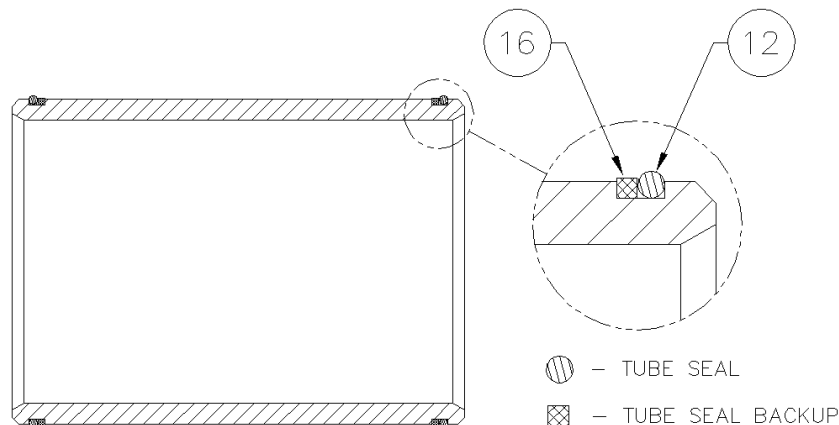
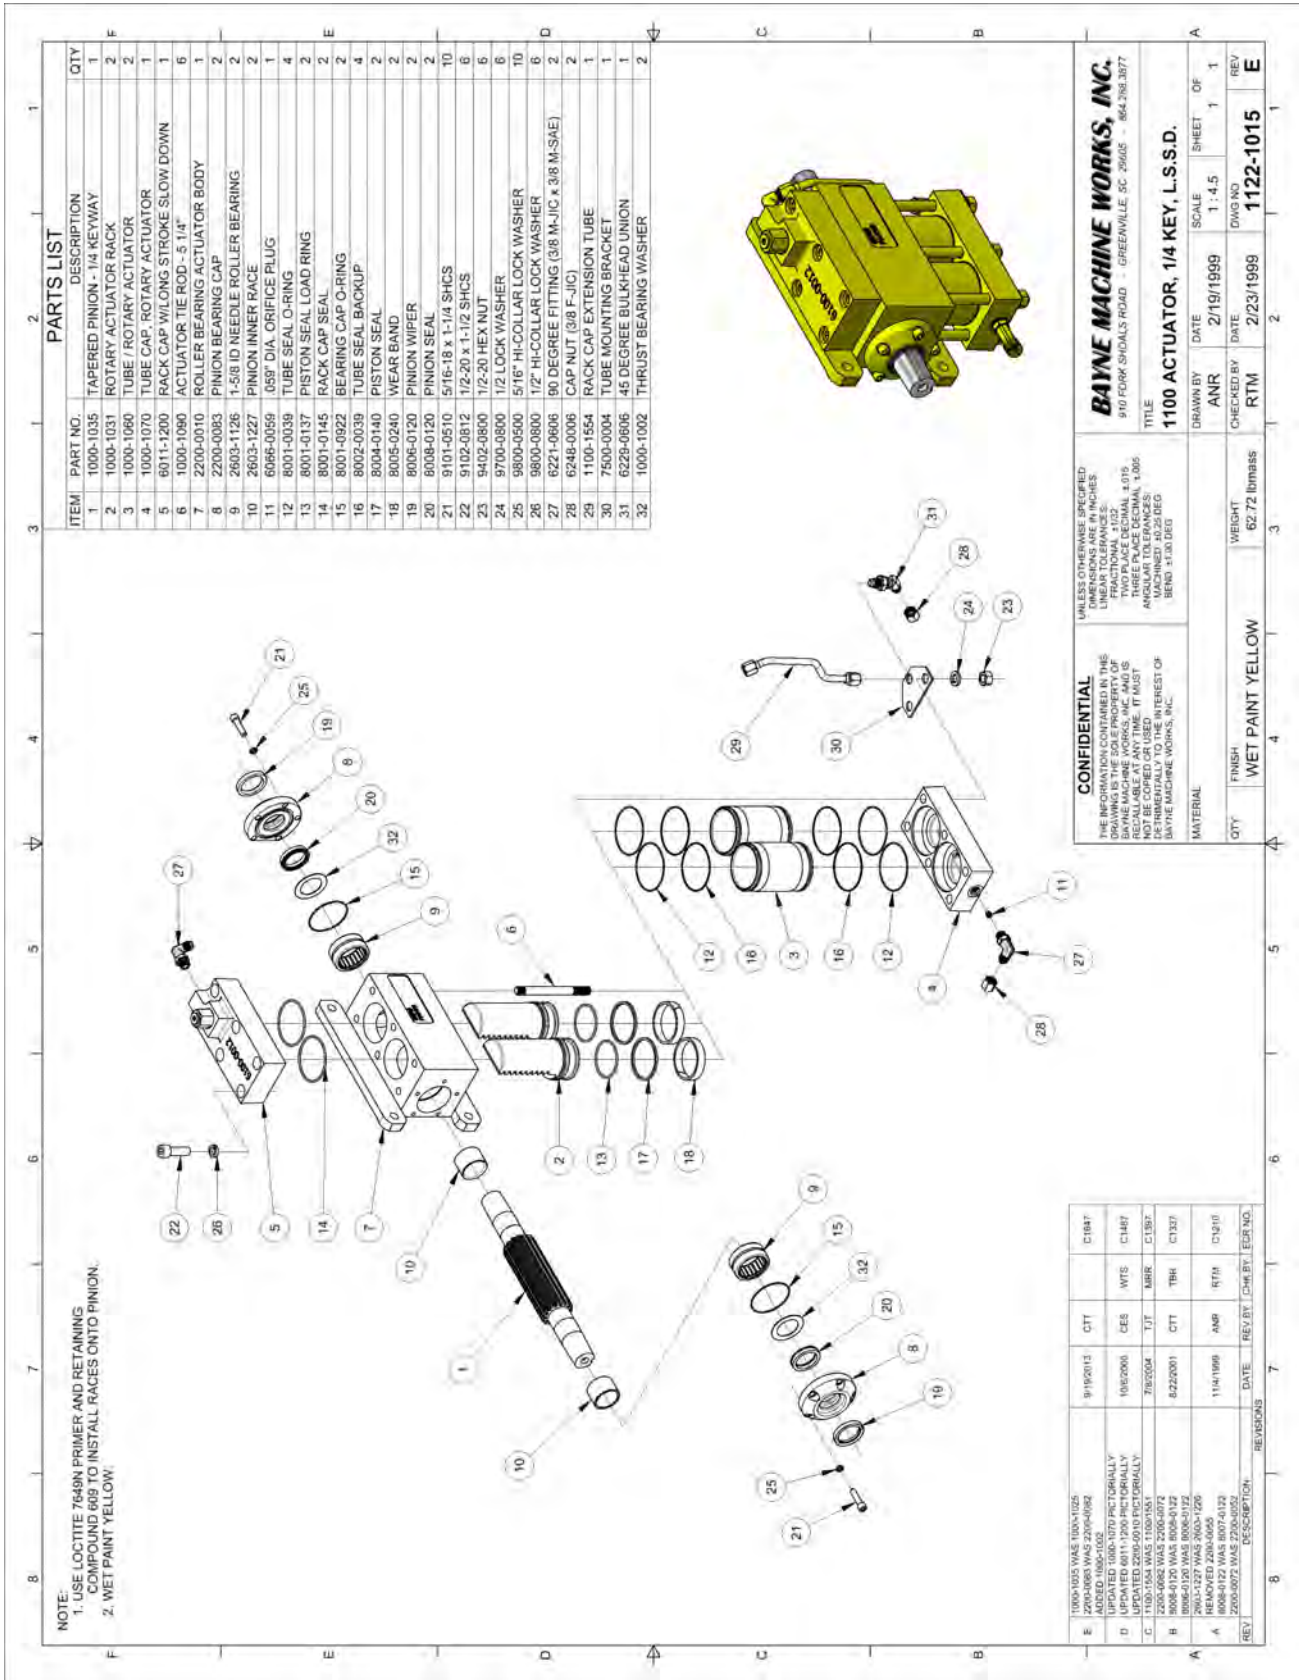

Figure C-2
Figure C-13
Before starting the assembly of the Rotary Actuator, refer to the exploded parts drawing and parts list (Figure C-13 found at the end of these instructions) to familiarize yourself with the individual components. Prepare a clean surface, in an area free of blowing dust and contaminants in which to assemble the Rotary Actuator. Be sure that all parts are thoroughly clean and dry before starting assembly.
2. Install the tube seal (12) (Figure C-2) and "square" tube seal backup (16) on each end of the actuator tubes (3) (Figure C-13). Be sure that the "square" tube seal backup ring is toward the inside of the tubes at both ends as shown. Press all rings firmly into the grooves. Repeat this procedure for the other tube.
5. Coat the head portion of the racks (2) (Figure C-13) with STP Oil Treatment. Install the racks, head portion up with the teeth facing the flanges of the actuator body, into the dual set of bores in the body. Simultaneously slide the racks into the bores so that the racks mesh with the pinion in the same position. Rotate the pinion shaft to engage the racks into the pinion.
- Coat one end of the actuator tubes (3) (Figure C-13) around the seal area with STP Oil Treatment as shown in Figure C-7. Using a rubber mallet, drive the coated end of the tube onto the exposed rack until the tube end seats in the actuator body, making sure that the seals remain in place as the tube enters the counter-bore. Repeat this procedure for the other side.
- Install the six tie rod studs (6) (Figure C-13) by screwing the short threaded end into the actuator body. Hand tighten only at this time (the torque needed will be applied later in the procedure).
- Place the tube cap (4) (Figure C-13) on the table. Coat the sides of the two bores in the tube cap with STP Oil Treatment. Install the cap over the tubes and rod studs with the oil port positioned to the left as shown in Figure C-13. Using a rubber mallet, tap the tube cap over the tubes until the tubes seat in the cap, making sure that the seals remain in place.
- Place the tube mounting bracket (30) (Figure C-13) over the two end rod studs opposite the oil port in the tube cap as shown in Figure C-13.
- Install the hex nuts (23) (Figure C-13) and lock washers (24) on the tie rod studs. Torque the nuts to 50 ft-lb. in the sequence shown in Figure C-8.
12. Place the rack cap (5) (Figure C-13) bore side up on the table and coat the edge of each bore with STP Oil Treatment. Install the rack cap seals (14) (Figure C-9) in the rack cap.
13. Reposition the actuator on the table mounting flanges down, and the lower tubes facing away from the assembler. Rotate the pinion shaft to allow 1" of the rack to protrude from the top of the actuator body. Install the rack cap with the oil port positioned to the left hand side of the actuator opposite the bottom oil port located in the tube cap as shown in Figure C-13. Attach the rack cap to the actuator body using the socket head bolts (22) (Figure C-13) and lock washers (26). Torque the bolts to 90 ft-lb. in the sequence shown in Figure C-10.
15. Re-center the actuator pinion in the actuator body by tapping on one end of the shaft with a rubber mallet. Install the roller bearing (9) (Figure C-13), over the pinion shaft and inner race, and into the actuator body. Repeat this procedure for the other bearing.
18. Wrap masking tape or electrical tape around the pinion to cover the edges at the keyway. Slide the bearing cap assembly over the pinion shaft with the bearing cap seal facing toward the actuator body and the flat surface of the flange shown in Figure C-16 facing toward the actuator mounting flanges. Press against the bearing cap until the shoulder seats against the actuator body, making sure that the seals remain in place. Install the bearing cap bolts (21) (Figure C-13) and lock washers (25). Hand tighten only at this time. Repeat this procedure for other bearing cap.
20. Install the 90° fitting (27) (Figure C-13) into the oil port on the side of the rack cap (5). Hand tighten only at this time.
21. Install the 45° bulk-head fitting (31) (Figure C-13) up through the hole in the tube mounting bracket (30) bolted to the tube cap as shown in Figure C-13. The 45° end must be pointing down away from the rack cap (5) and back toward the mounting flanges on the actuator body. Hand tighten only at this time.
22. Install the rack cap extension tube assembly (29) (Figure C-13) between the 90° fitting in the rack cap and the 45° fitting in the tube mounting bracket as shown in Figure C-13. Tighten all connections.
23. Install the orifice plug (11) (Figure C-13) into the oil port on the side of the tube cap (4), and install the 90° fitting (27) into the oil port over the orifice plug as shown in Figure C-13. Turn the fitting so that it points down away from the rack cap (5) and back toward the mounting flanges on the actuator body and tighten.
24. Install the cap nuts (28) (Figure C-13) onto the open fittings to prevent contamination of the unit until the hoses are installed.